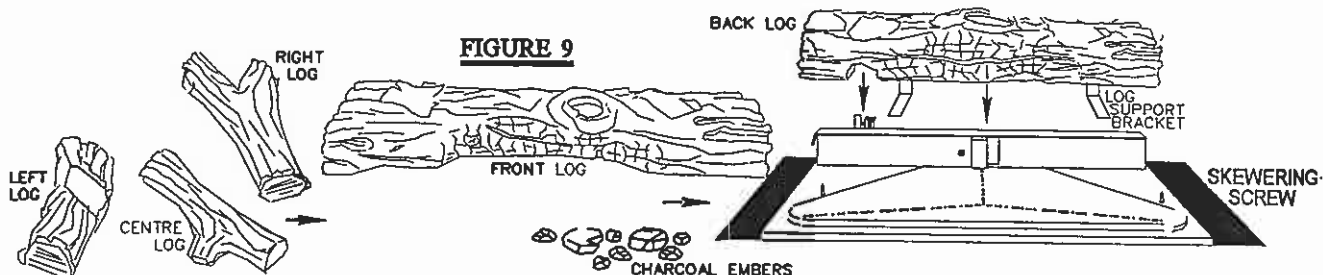

FIGURE 9
2. Place the back log onto the log support brackets located on the rear wall of the combustion chamber. The notch situated at the lower left of the back log should be centered evenly above the pilot assembly. FIGURE 9.